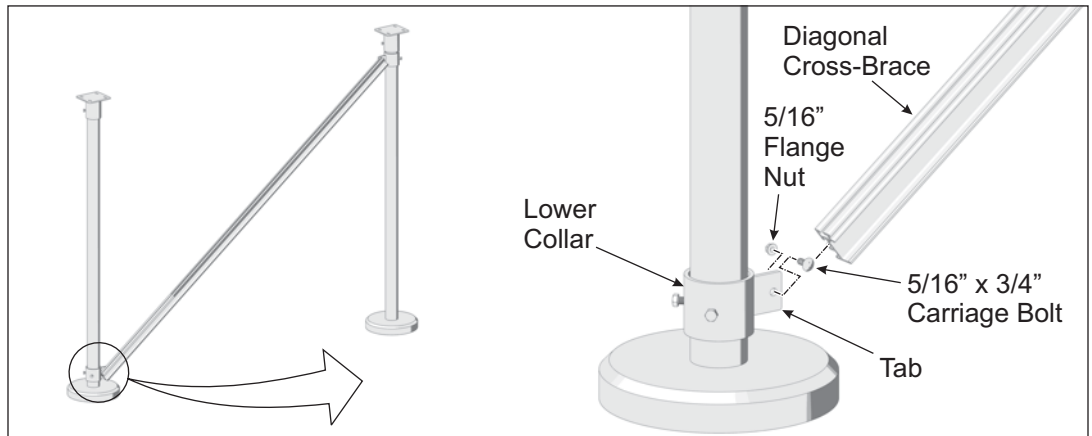

Figure 3-5: Attaching Diagonal Cross-Bracing to Lower Collar
- B. Insert the carriage bolt into the Tab mounting hole and secure with 5/16" flange nut. For now, finger tighten only. (See Figure 3-5)